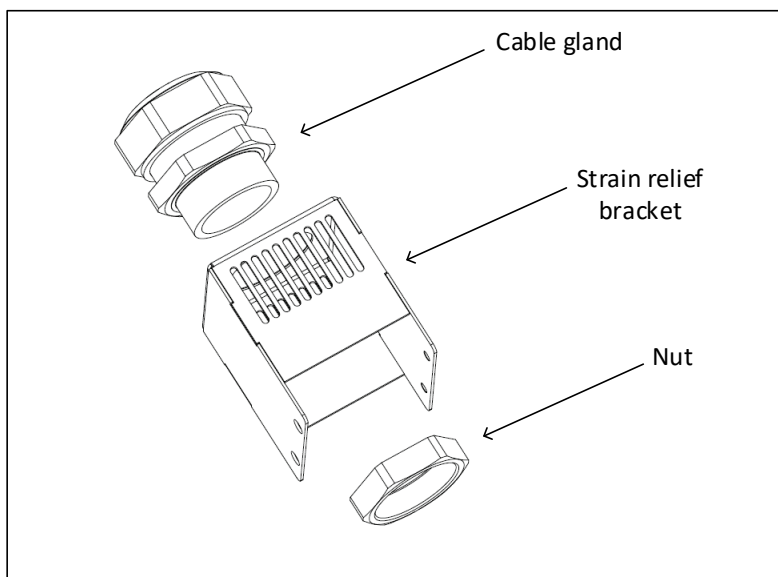

Figure 4-9: Insertion of the Plastic Nut into Strain Relief Bracket
2. Insert the Cable gland into the Strain relief bracket Assembly as shown in Figure 4-9.